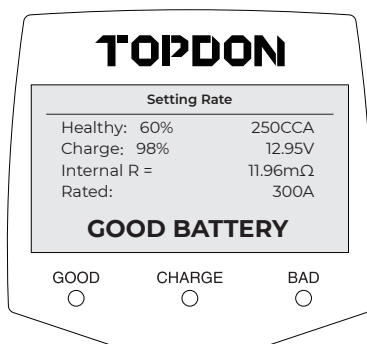

Figure 4.1.5
5) Test result will show as below (See Figure 4.1.5) (if there is any suggestion, please follow accordingly):